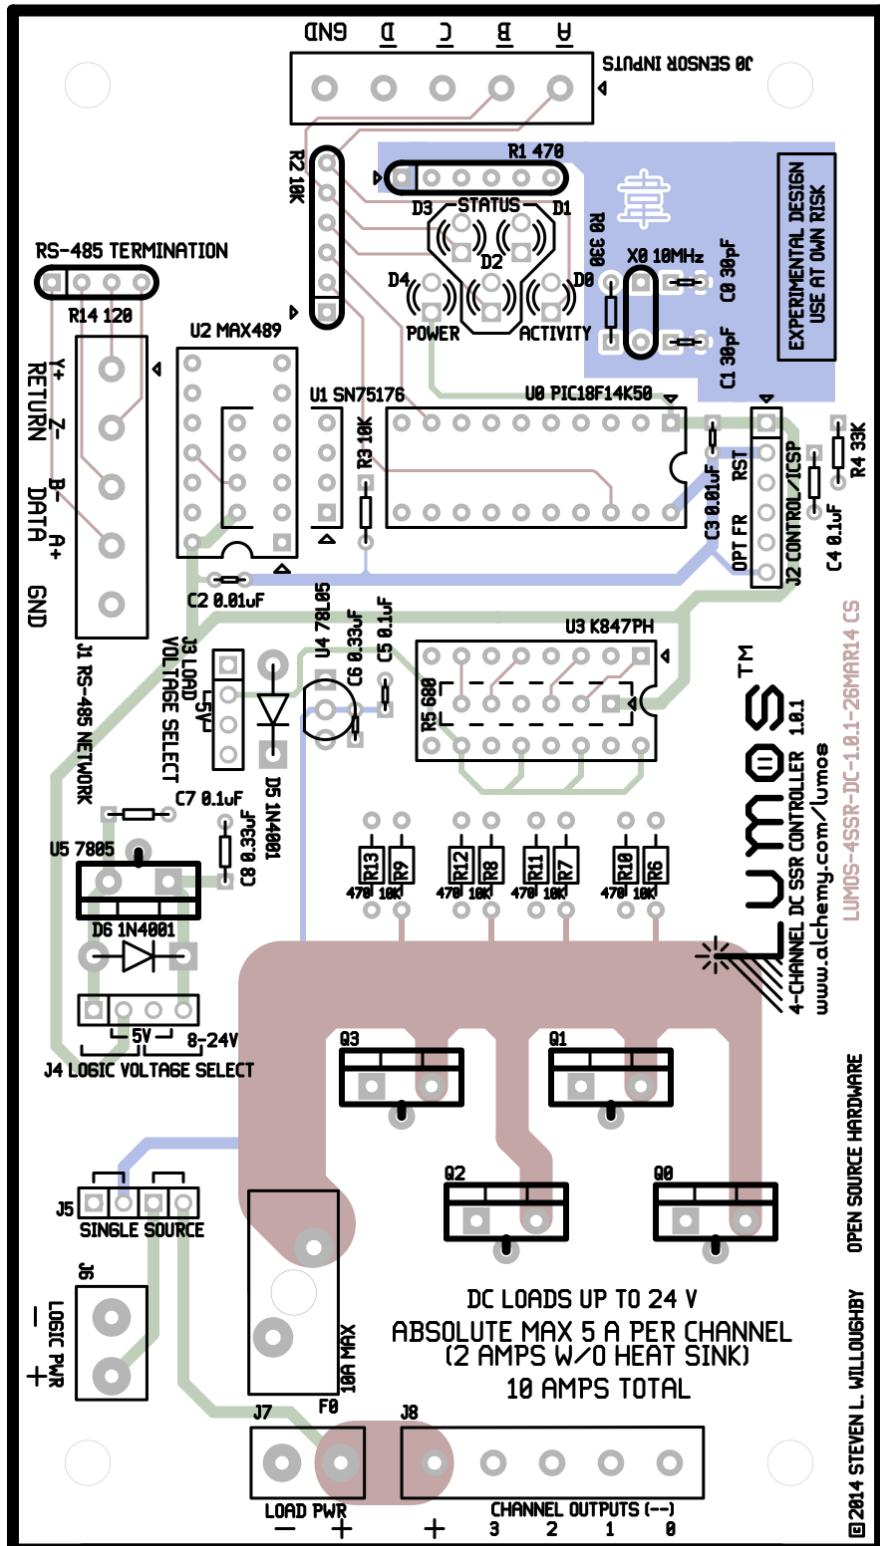
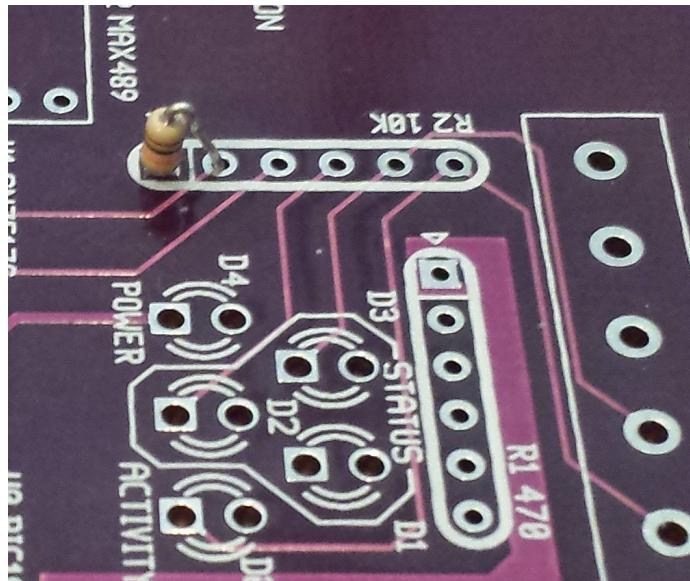

Figure 5.1: Lumos Board Parts Placement Diagram
Figure 5.3: Discrete R2 Resistor If No Sensor Inputs Are Used
Refer to Figure 5.1 throughout these instructions to see where the components are located on the PCB. The locations are also labeled on the PCB itself.
1. Install a  $330\Omega$  resistor in position R0 as marked on the PCB and Figure 5.1. This is marked with the color bands “orange-orange-brown.” Push it all the way until flush with the PCB.
4. Repeat steps 1–3 to install (5) 10 K resistors (“brown-black-orange”) at R3 and R6–R9.
5. Repeat steps 1–3 to install (4)  $470\Omega$  resistors (“yellow-violet-brown”) at R10–R13.
7. **If you will not be installing sensor inputs**, you will not install the 10 K resistor network at R2. However, you will instead install a single 10 K resistor between pins 1 and 2 of R2. See Figure 5.3 for a photo of what this looks like.
8. In the same fashion, install and solder (2)  $30\text{ pF}$  or  $33\text{ pF}$  capacitors into positions marked C0–C1.
9. Install and solder (2)  $0.01\mu\text{F}$  capacitors into positions C2–C3.
10. Install and solder (3)  $0.1\mu\text{F}$  capacitors into positions C4, C5, and C7.
11. Install and solder (2)  $0.33\mu\text{F}$  capacitors into positions C6 and C8.
12. Install (2) 1N4004 diodes at D5 and D6. **Note: These parts will not function if inserted the wrong direction.** Each diode has a stripe on one end. This end is inserted into the hole marked by the straight line (cathode) drawn on the PCB. The unmarked end goes into the hole marked by the triangle (anode). Solder into place.
13. Install (2) green LEDs at D1 and D4. **Note: These must be inserted in the correct orientation.** The longer lead (anode) goes into the square hole, while the shorter lead (cathode) goes into the round hole. Solder into place.
14. Install (2) yellow LEDs at D0 and D2, noting the cautions from the previous step. **Note: if you will be using sensor inputs, you may wish to omit D0, and/or D2. See Chapter 7 for details before installing these parts.** Solder into place.